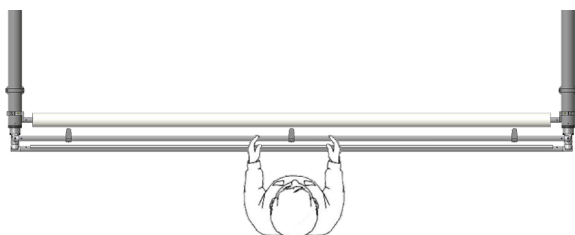

Fig.21
A. Stand behind the roller facing the front of the boat and grab the canvas and roller with both hands (Fig.21).